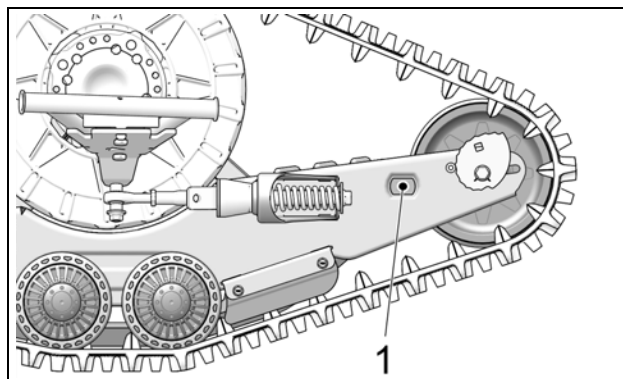

Figure 5
- A Bubble Level (1) is attached to the inside of the front frames. A perfectly centered bubble is needed to adjust the angle of attack correctly. See Figure 5.